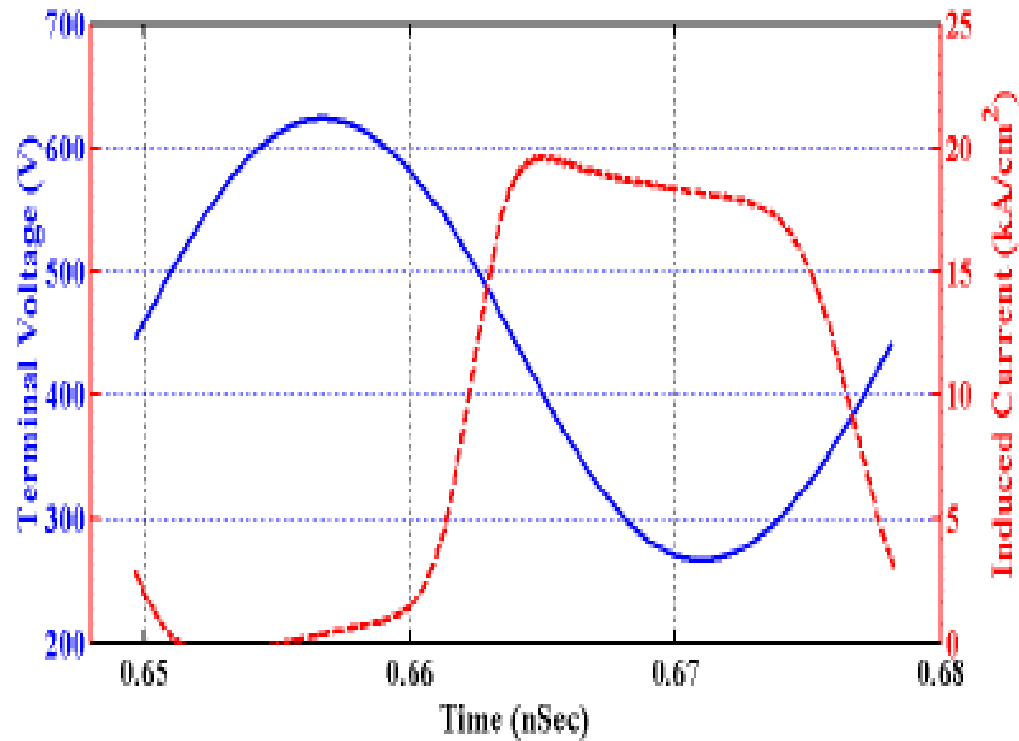

Figure 3: Close Up Current And Voltage.
- **Figure 3** shows a close-up of the current and voltage waveforms **after oscillations have stabilized**. It is clear from Fig. 3 that the current is 180° out of phase with the voltage